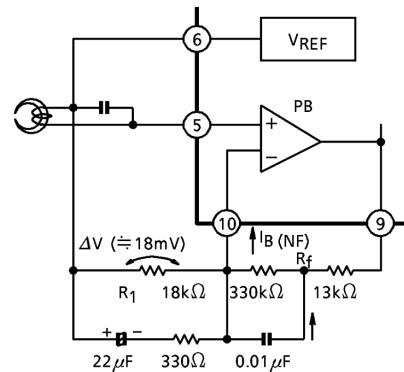

Fig.1 DC output voltage of playback amplifier.
In case that β of transistor is assumed 100, IB(NF) is flowed 0.2μA in Fig.1. And output voltage of playback amplifier (pin (8),(9)) in Fig.1 is